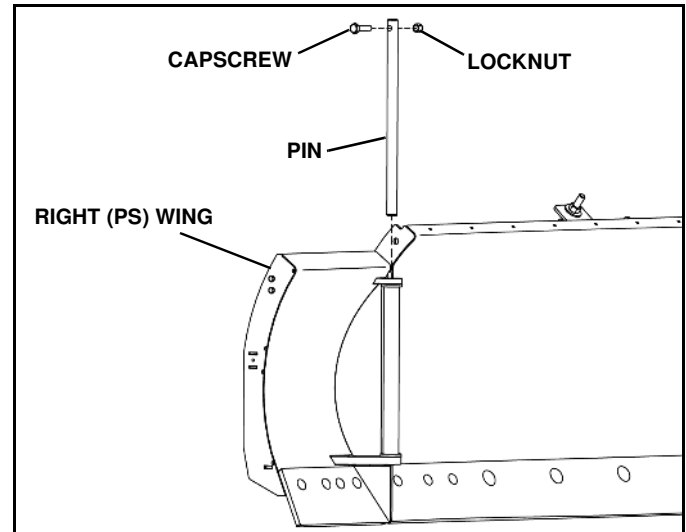

Figure 1-7
1. Align right wing with blade. Coat pin with grease and insert completely through blade and wing. Install a 1/2"-13 x 1-1/2" hex head capscrew and 1/2"-13 locknut to secure the pin. Snug the bolt, but do not torque. (See Figure 1-7)